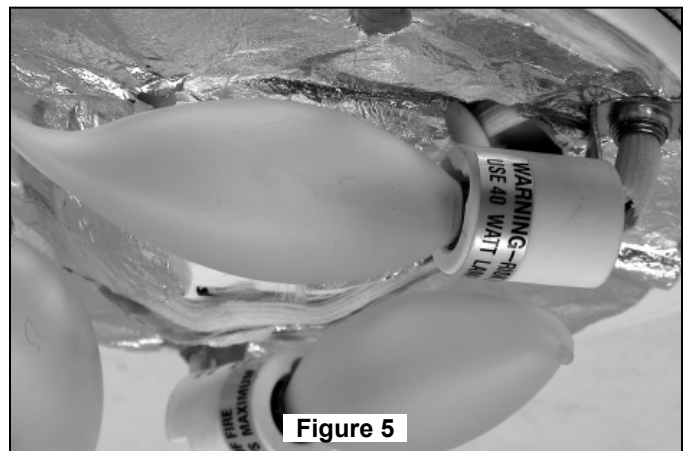

Figure 5
8. Assemble Upper Housing cover and fasten to Downrod Support with three screws (with spring washers) provided. (Figure 5)
10. Reinstall the Hanger Ball (Figure 5) on the Downrod as follows. Route the three 80" wires through the Hanger Ball. Position the Pin through the two holes in the Downrod and align the Hanger Ball so the Pin is captured in the groove in the top of the Hanger Ball. Pull the Hanger Ball up tight against the pin. **Securely tighten the setscrew in the Hanger Ball. A loose setscrew could create fan wobble.**
5. Install three Candelabra Bulbs (not included - 40 watts max) in each of the sockets on the Downlight Socket Plate Assembly. (Figure 5)